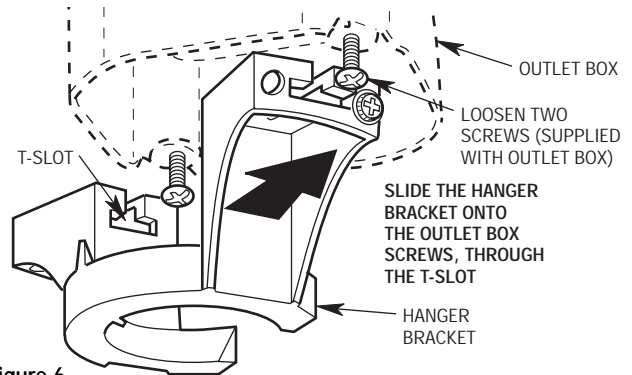

Figure 6
- 1. Unscrew (but do not remove) the two mounting screws in the outlet box (Figure 6). Position the hanger bracket on the outlet box so that the T-slots in the hanger bracket are aligned with the outlet box screws.